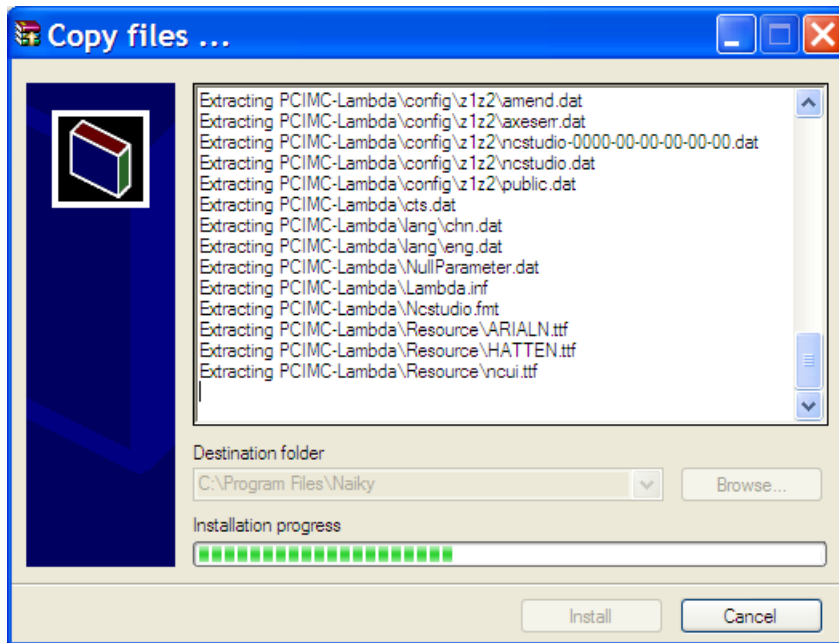
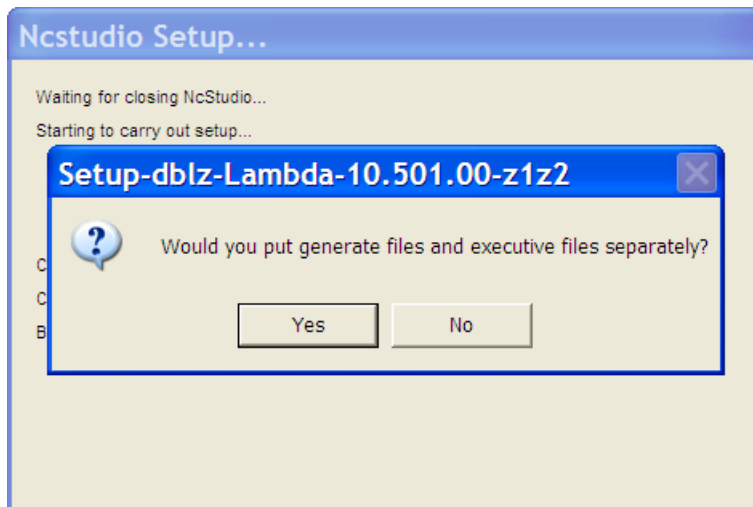

Fig. 1-4 Installing
Fig. 1-5 Prompt for file location ([No] is recommended)
- 5) Installation begins. The NcStudio system will be installed in the directory *C:\Program Files\Waiky* by default. Progressing picture is as shown in Fig. 1-4. With that, a dialog will appear to prompt the user to decide whether to put the generated files and the executive files together or separately, see Fig. 1-5. [No] is recommended here. The next dialog to appear is prompting shutdown of the